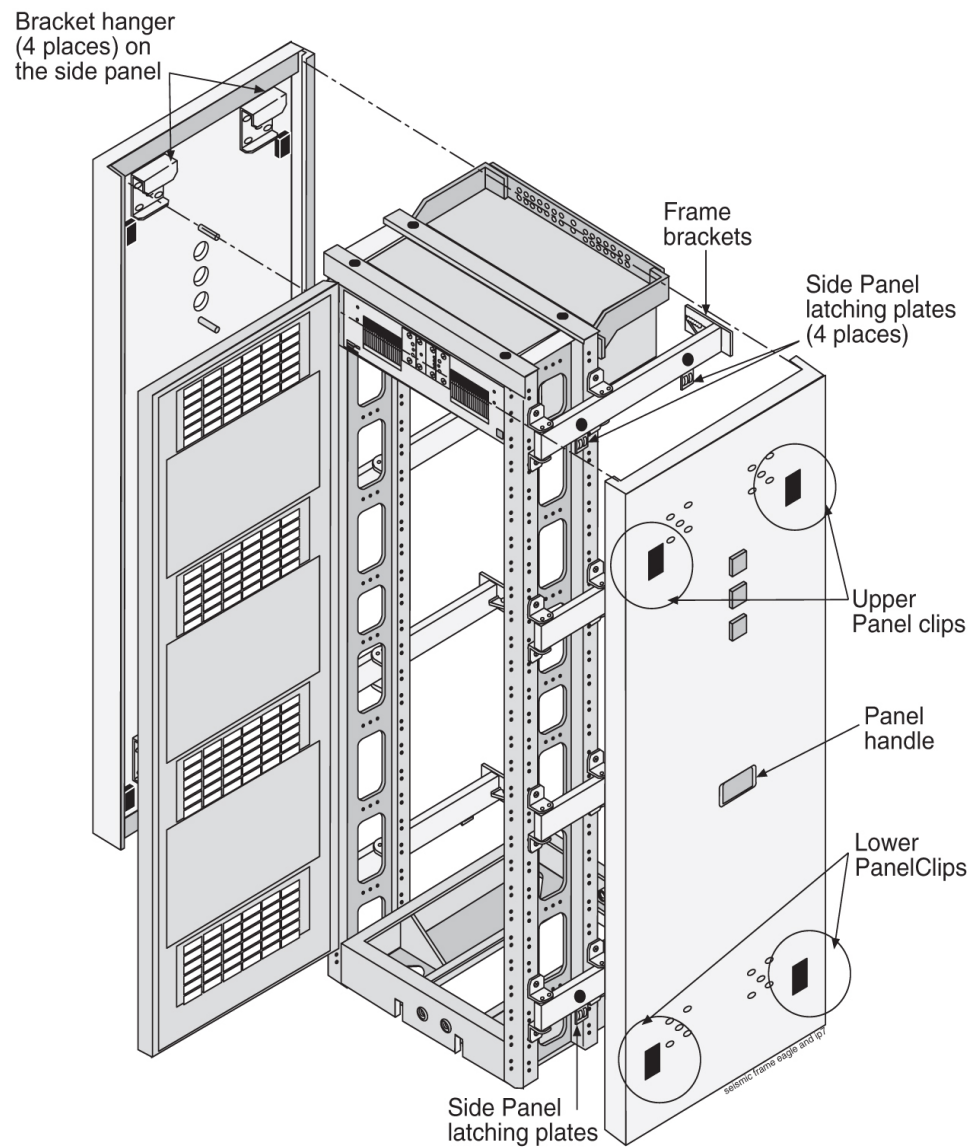

Figure 24: Heavy Duty Frame Panels
3. Grasp the handle in the middle panel and lift the panel off of the frame bracket shown in Figure 24: Heavy Duty Frame Panels.